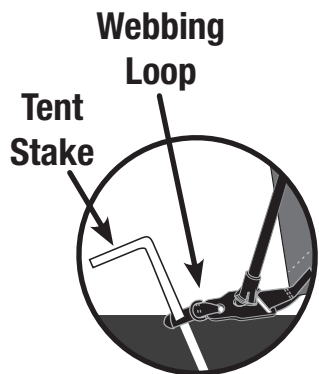

Fig. 9
- Secure shelter by driving stakes through the webbing loops sewn to the shelter base. (Fig. 9)